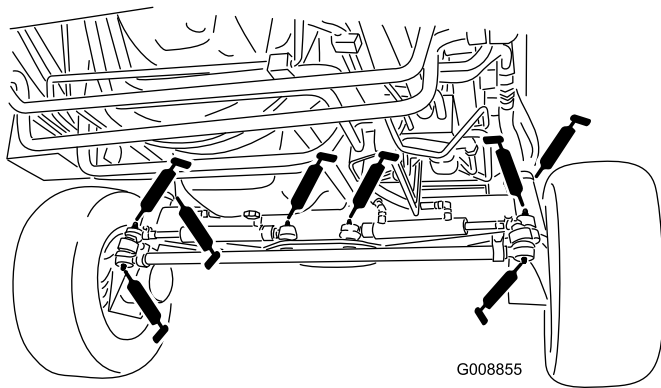

Figure 47
- Steering cylinder ball joints (4) (Figure 47)
- Tie rod ball joints (2) (Figure 47)
- King pin bushings (2) (Figure 47)